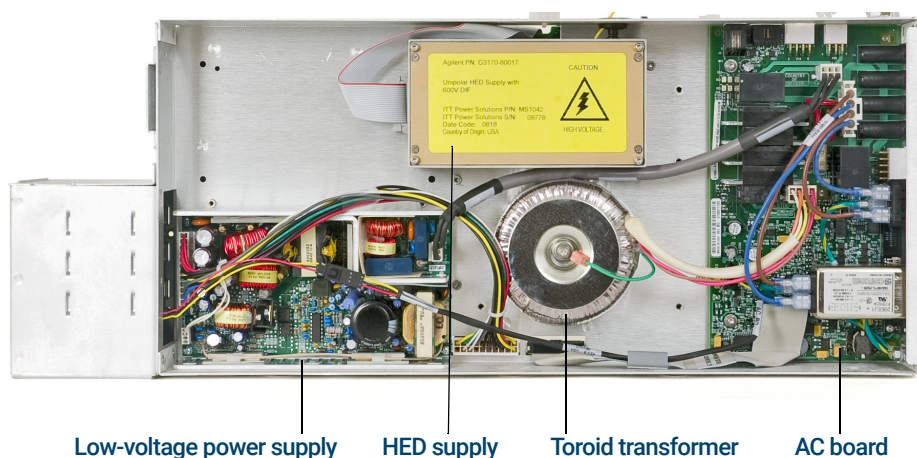

Figure 46. Electronics module, side 1
- AC board (power distribution/vacuum control board) (See **Figure 46**.)
- Low voltage (AC-DC) power supply (See **Figure 46**.)
- High-voltage (HED) power supply (See **Figure 46**.)
- Toroid transformer assembly (See **Figure 46**.)